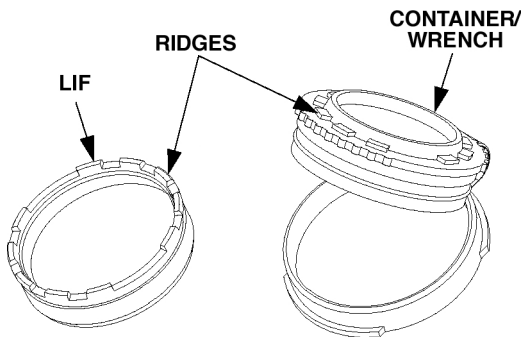

Figure 2-9. LIF.
(2) If the objective lens cap or sacrificial window is on the objective lens of the monocular, remove it.
(3) Carefully open the container/wrench and remove the LIF. Refer to Figure 2-9.